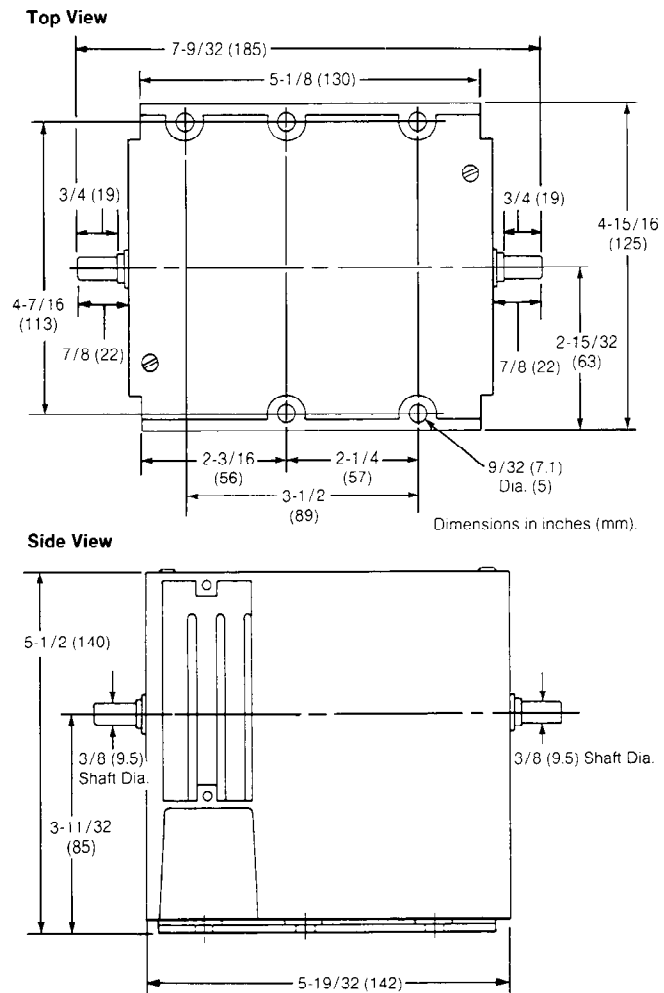

Figure 1. Mounting Dimensions for ME-123X3 Series
The actuator can be mounted in any position in a weather protected area. Five 9/32" (7.1 mm) mounting holes are provided in the base of the actuator (see Figure 1). Two (2) mounting screws on right side and one (1) screw on left side of actuator are the minimum number of required fasteners. Locate the actuator as close to the damper as possible.